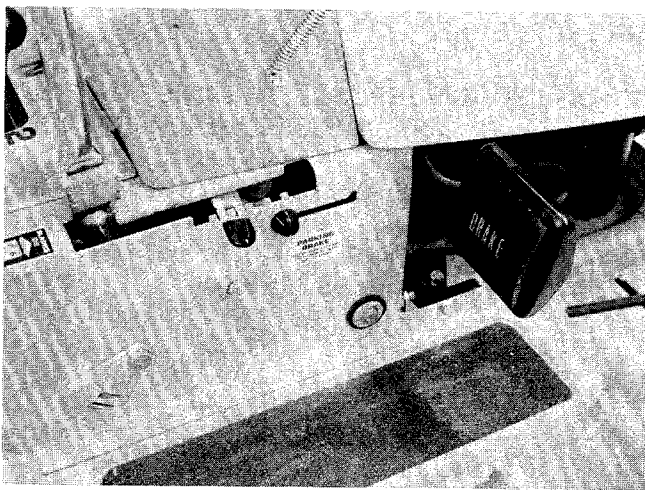

FIGURE 11.
- h. **Brake.** The brake pedal is located on the right hand side of the mower and is operated by depressing it with your right foot. See figure 11.